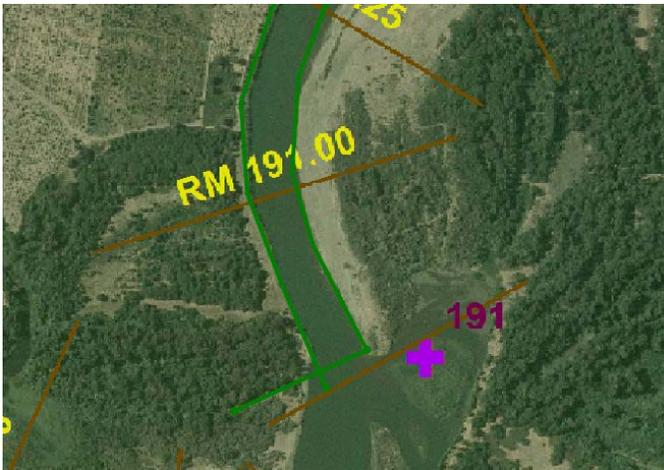

Figure 5-6. New created line at downstream end
Step 5: Click the add button  in the Geometry Module toolbar to add a line. The Sacramento River flows from north to south, so the downstream end is at the bottom of your screen and the left bank should be on your right side. Click as close as possible on the downstream of the left bank and move to the right side and double click on a point on right floodplain. The end point should be at least 20 pixels away from the downstream of the right bank and the new created line should be as perpendicular as possible to the two banks (Figure 5-6).